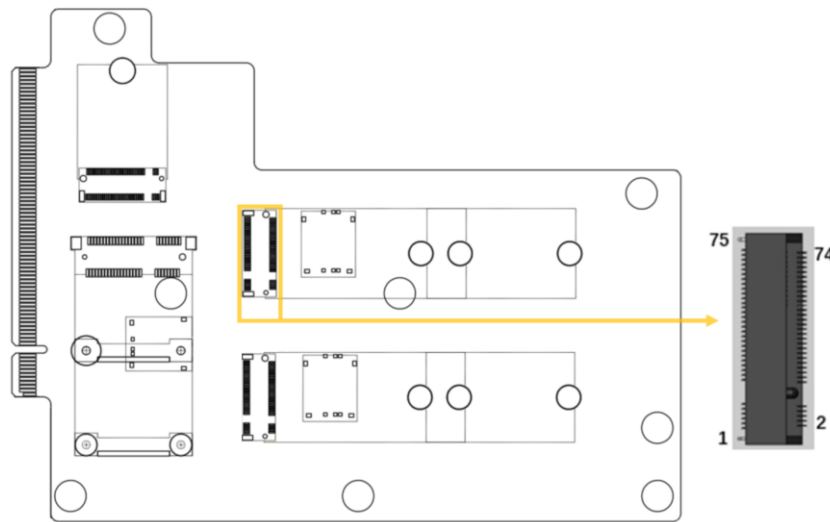

Figure 4-3: M.2 B-key Slot Location
- CN Location:** See **Figure 4-3**